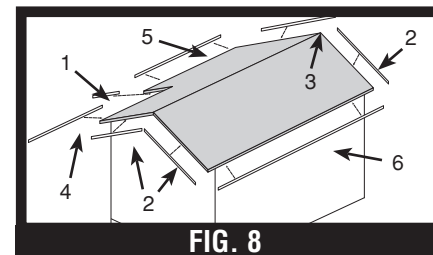

FIG. 8
11. Use Roof Trim Board patterns (FIG. 6) to mark approximate sizes on the thin styrene plastic strips furnished. Match and file end angles on strips 1-3 to fit pattern. Check fit to roof edges. Glue Trim Boards to roof edges (FIG. 8).